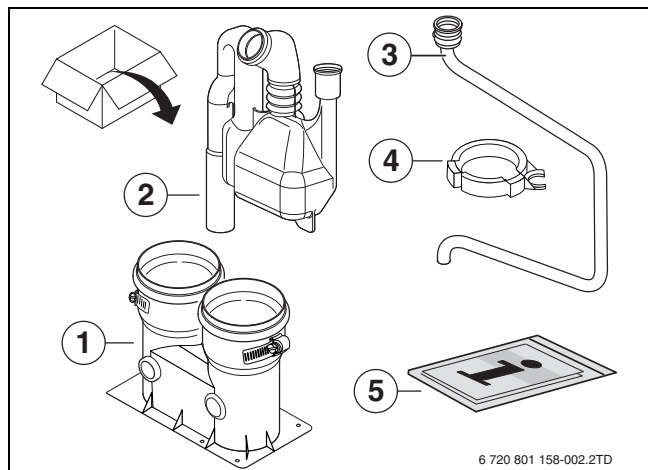

Fig. 1 Service kit with condensate trap, condensate bypass pipe and flue gas adapter
- ▶ Fill the new condensate trap (→ fig. 1, [4]) with water before re-installing it. This is to prevent exhaust gases from entering the room.